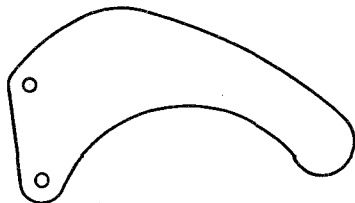

Fig. 26
2. In conjunction with the adoption of a linear f-stop scale, the diaphragm blades for the new shutter versions have been re-designed as shown in Figs. 26 and 27 below.